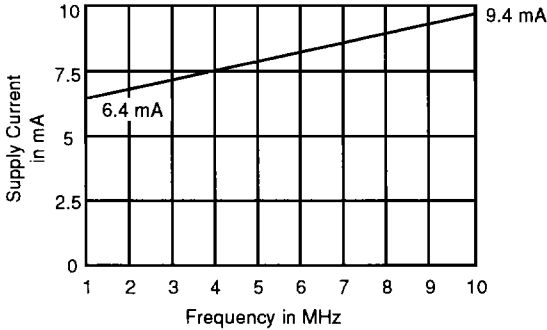
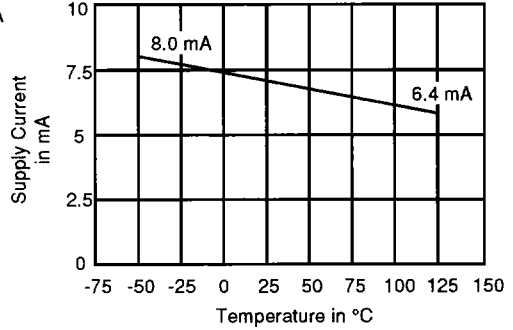

Figure 1. Typical Supply Current vs. Frequency
Figure 2. Typical Supply Current vs. Temperature
8. For typical supply current values at various frequencies, refer to Figure 1. For temperature, refer to Figure 2.